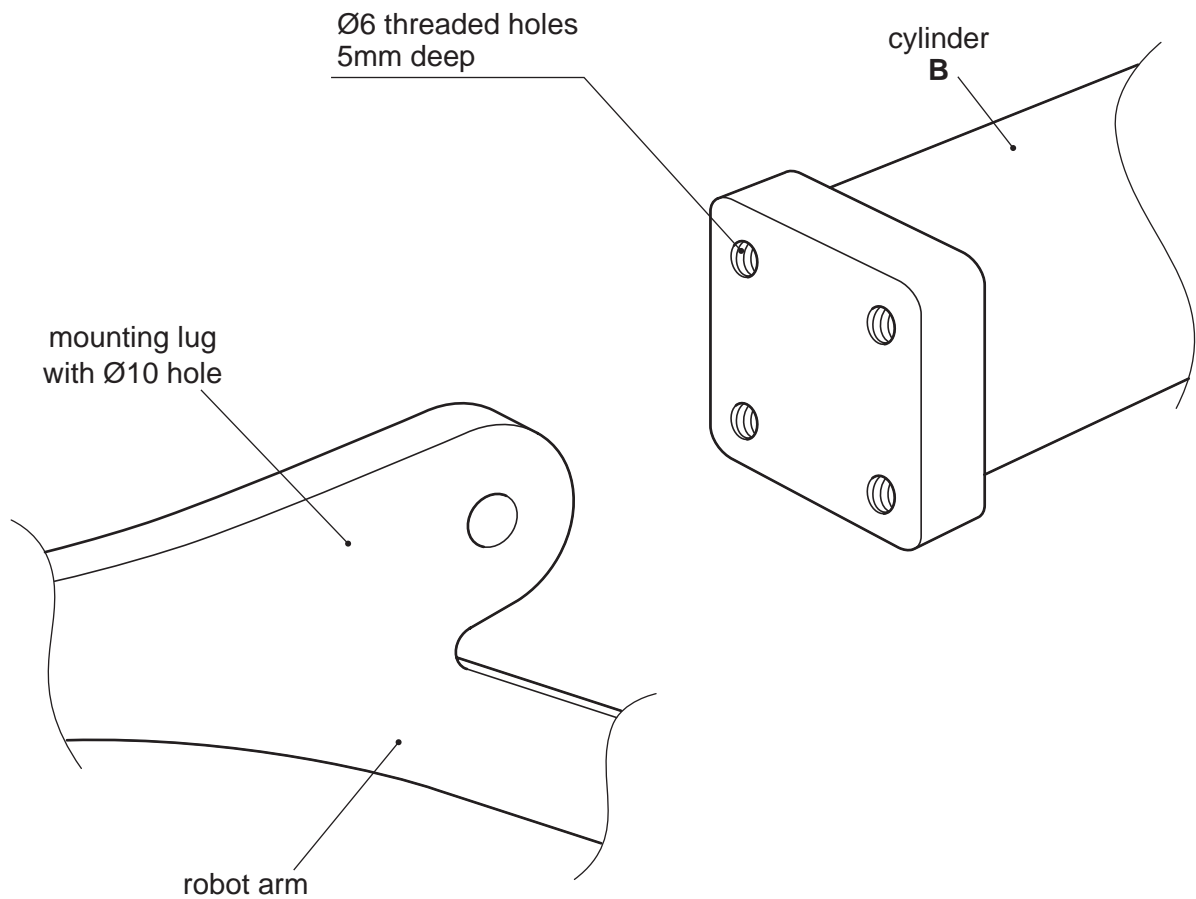

Fig. 5
- (b) The rear of cylinder **B** shown in Fig. 5, needs to be attached to the mounting lug on the robot arm so that the cylinder can pivot when tipping the bucket.
Draw on Fig. 5 a bracket that will locate with the $\text{\O}10$ hole in the mounting lug .